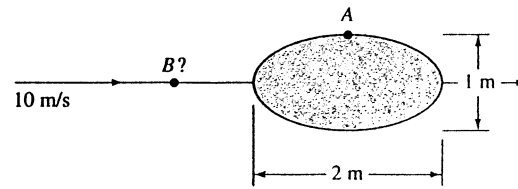

Fig. P8.37
**8.37** A Rankine oval 2 m long and 1 m high is immersed in a stream  $U_\infty = 10$  m/s, as in Fig. P8.37. Estimate (a) the velocity at point A and (b) the location of point B where a particle approaching the stagnation point achieves its maximum deceleration.